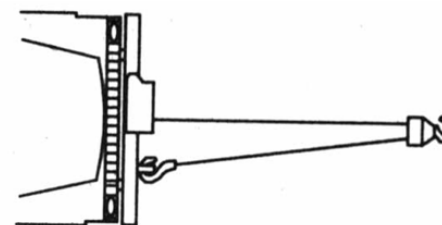

Figure 8
3. Double line with a pulley block(see Figure 8) to reduce the load on the winch, wire rope and battery. Double lining will also reduce winch line speed. Be sure all equipment used meets the winch's maximum line pull rating. When double-lining, pulley blocks should be rated to a minimum of two times the winch's line pull rating.